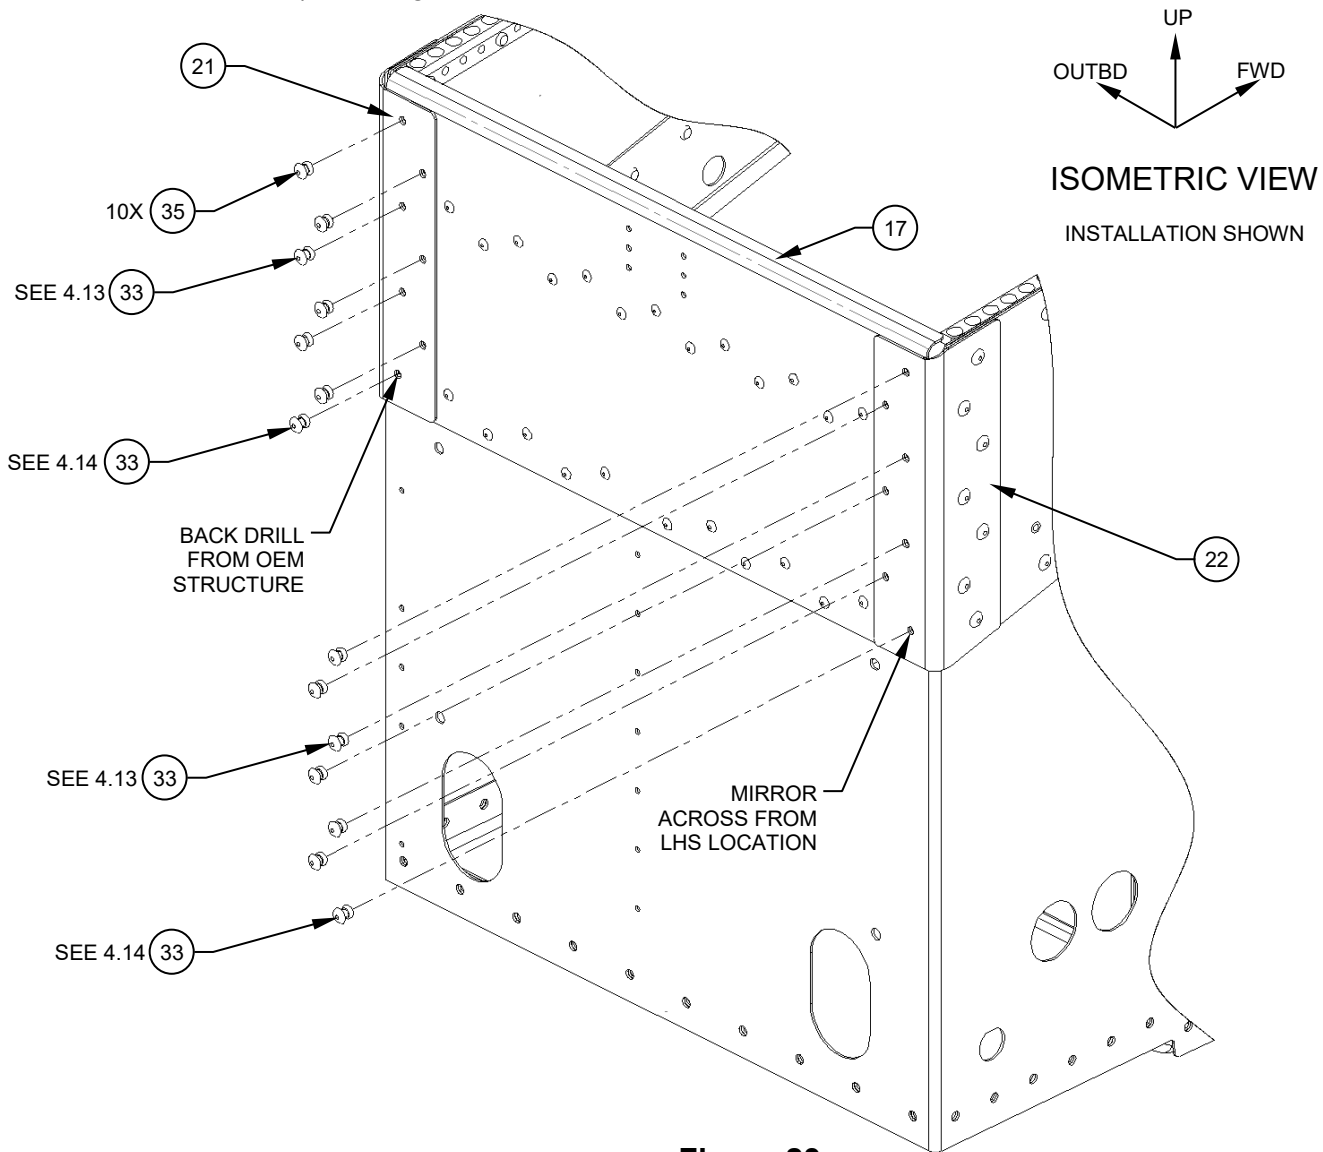

Figure 23
4.13. Back drill 10x Rivet, Solid, Universal Head, (Item 35), thru the LHS/RHS Angle, Details, (Items 21 & 22), & AFT Angle, Assy, (Item 17). Back drill 2x Rivet, Solid, Universal Head, (Item 33), thru the LHS/RHS Angle, Details, (Items 21 & 22), & AFT Angle, Assy, (Item 17). See Figure 23.
4.14. Back drill from the OEM structure thru the AFT Angle, Assy, (Item 17), LHS Angle, Details, (Item 21), and 1x Rivet, Solid, Universal Head, (Item 38). Mirror the location across to the RHS Angle, Details, (Item 22), and drill thru the AFT Angle, Assy, (Item 17), and OEM structure, and 1x Rivet, Solid, Universal Head, (Item 38). See Figure 23.